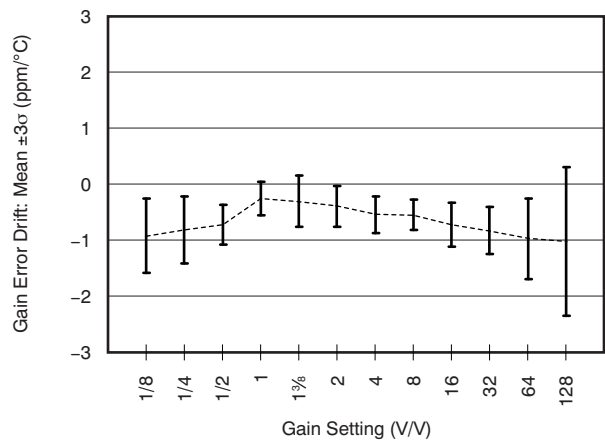

Figure 10. GAIN ERROR DRIFT DISTRIBUTION vs GAIN SETTING (Mean with $\pm 3\sigma$)
(6) Gains smaller than $\frac{1}{2}$ are measured with smaller output swing.
(7) Specified by design; not production tested.
(8) See Figure 10 for typical gain error drift of various gain settings.
(9) See Application Information section and Typical Characteristic graphs.
(10) Only gain = 1 is production tested.